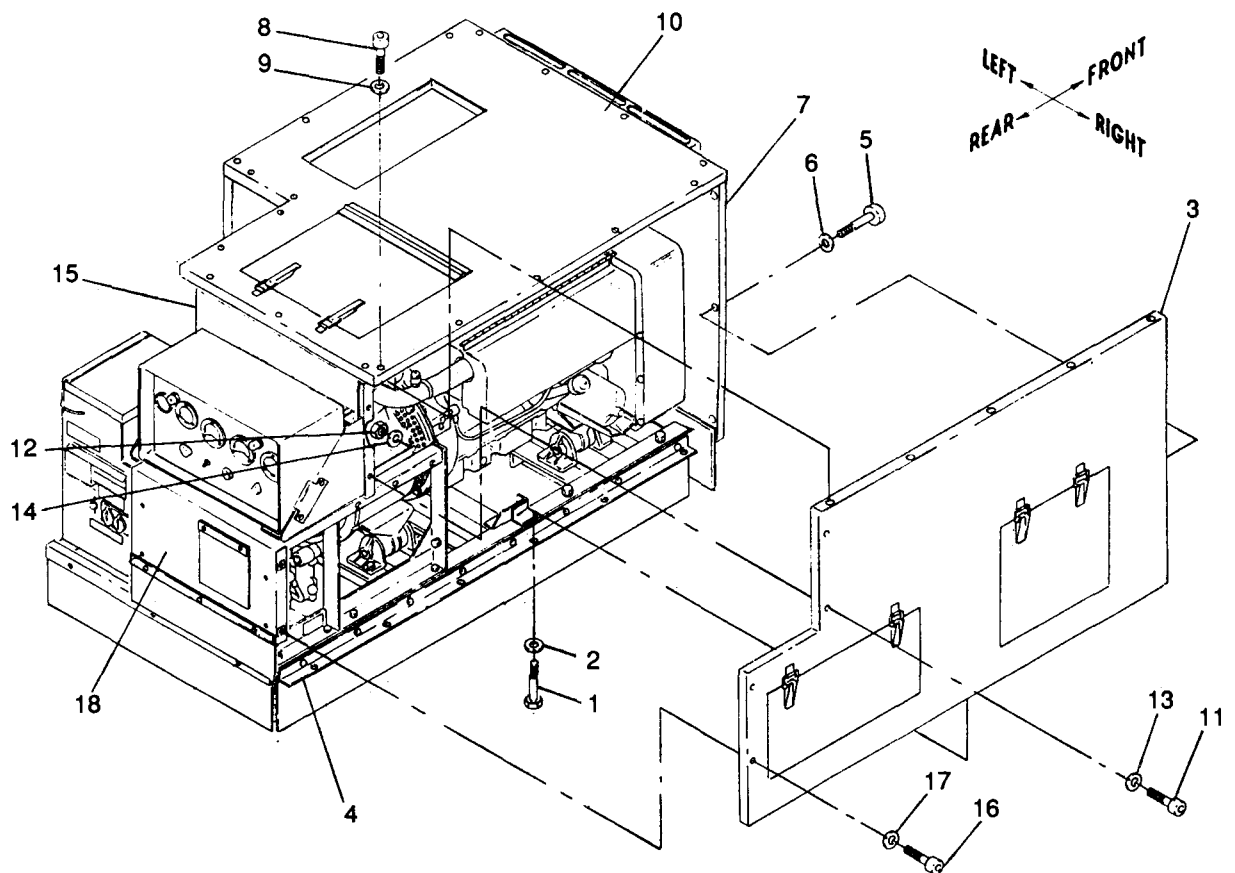

Figure 5-5. Right Panel Assembly, Removal and Installation
a. Removal. See figure 5-5. Remove right panel assembly from right support assembly, rear panel assembly, front panel assembly, top panel assembly and rear closure assembly as follows:
(1) Remove six screws (1) and washers (2) securing right panel assembly (3) to right support assembly (4).
(2) Remove three screws (5) and washers (6) securing right panel assembly (3) to front panel assembly (7).
(3) Remove five screws (8) and washers (9) securing right panel assembly (3) to top panel assembly (10).
(4) Remove two screws (11) and two locknuts (12), and four washers (13 and 14) securing right panel assembly (3) to rear closure assembly (15) and remove two screws (16) and washers (17) securing right panel assembly (3) to rear panel assembly (18) and remove right panel assembly (3).
b. Installation. See figure 5-5. Install right panel assembly to right support assembly, front panel assembly, top panel assembly, rear closure assembly and rear panel assembly as follows:
(1) Position right panel assembly (3) on right support assembly (4) and install two screws (11) and locknuts (12), and four washers (13 and 14) securing right panel assembly (3) to rear closure assembly (15) and install two screws (16) and washers (17) securing right panel assembly (3) to rear panel assembly (18).
(2) Torque screws (11) to 16 \pm 2 ft-lbs dry.
(3) Torque screws (16) to 18 \pm 2 in.-lbs dry.
(4) Install five screws (8) and washers (9) securing right panel assembly (3) to top panel assembly (10).
(5) Torque screws (8) to 18 \pm 2 in.-lbs dry.
(6) Install three screws (5) and washers (6) securing right panel assembly (3) to front panel assembly (7).
(7) Torque screws (5) to 18 \pm 2 in.-lbs dry.
(8) Install six screws (1) and washers (2) securing right panel assembly (3) to right support assembly (4).
(9) Torque screws (1) to 18 \pm 2 in.-lbs dry.